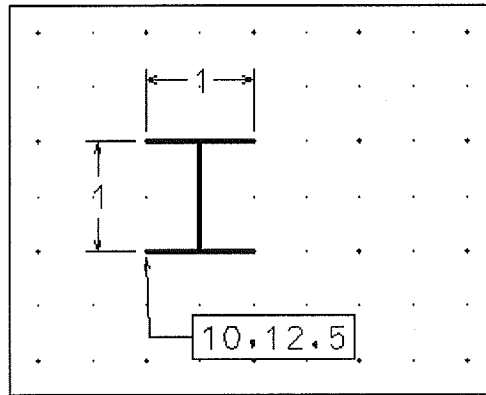

Figure P6-2 Draw the first column
This procedure describes the steps required to draw the I-beam shown in Figure P6-2.
STEP 9: In View Window 2, use Center Snap to place a vertical 1'-long line centered above the line you just drew, then place a 1'-long top horizontal line centered above the vertical line, as shown in Figure P6-2.